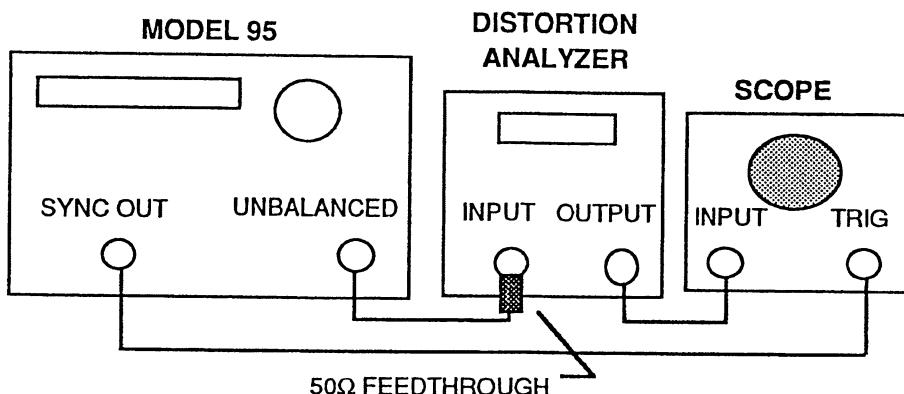

Figure 4-4. Sine Wave Adjust Setup
1. The Model 95 displays R33, 97, VSINE XXX where XXX represents the internal programmed value of the VSINE dc control voltage. Connect the test equipment as shown in figure 4-4.